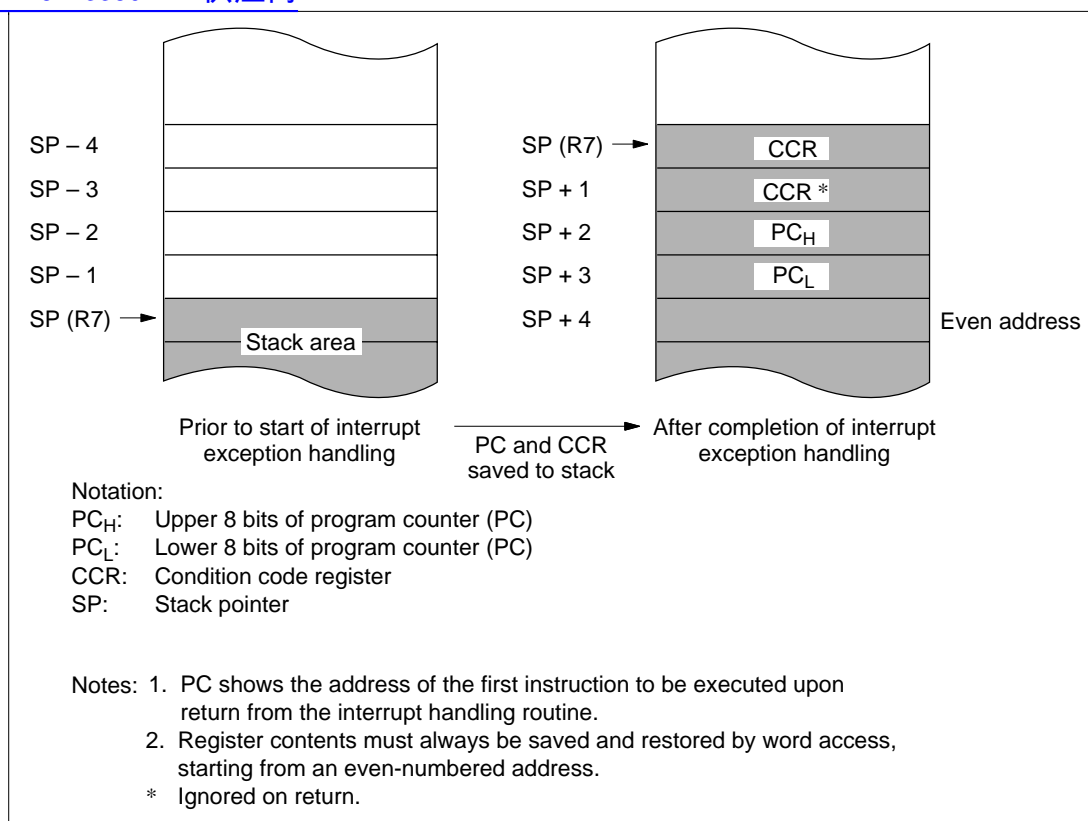

Figure 3.4 Stack State after Completion of Interrupt Exception Handling
- If the interrupt is accepted, after processing of the current instruction is completed, both PC and CCR are pushed onto the stack. The state of the stack at this time is shown in figure 3.4. The PC value pushed onto the stack is the address of the first instruction to be executed upon return from interrupt handling.